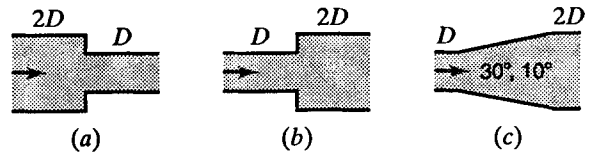

Figure X8.24.1
8.24.1 Two pipes with a diameter ratio of 1:2 are connected in series (Fig. X8.24.1). With a velocity of 6.8 m/s in the smaller pipe, find the loss of head due to (a) sudden contraction; (b) sudden enlargement; (c) expansion in a conical diffuser with a total angle of  $30^\circ$ , and of  $10^\circ$ .